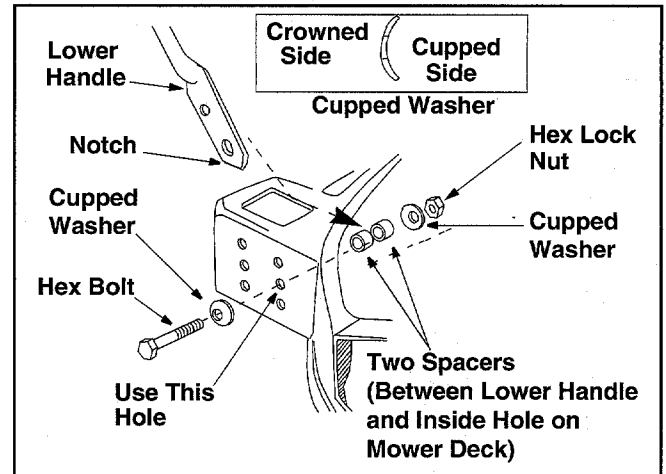

Figure 2
- Place **two** spacers between the bottom hole in lower handle and **middle inside hole** of the deck. Use a screwdriver to pry the handle away from the deck if necessary. See Figure 2.